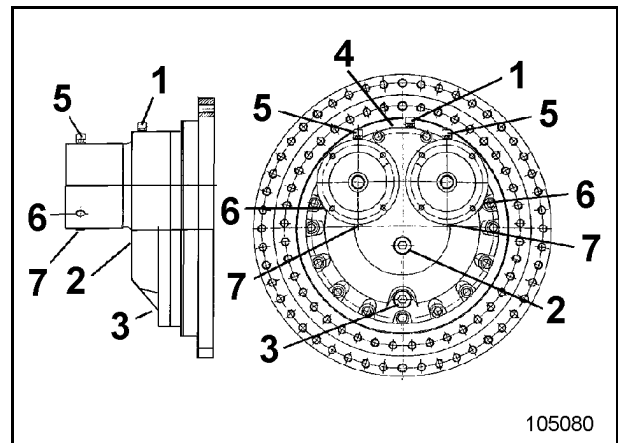

Fig. 3-118:
- Unscrew drain plug (3, Fig. 3-118:) and drain off the oil completely.